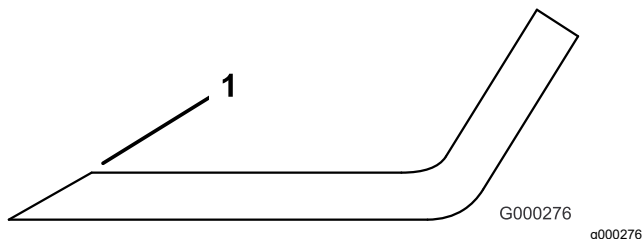

Figure 27
4. Examine the cutting edges of all of the blades and sharpen the cutting edges if they are dull or nicked (Figure 27).
Note: Sharpen only the top of the cutting edge and maintain the original cutting angle to ensure sharpness (Figure 27). The blade remains balanced if the same amount of metal is removed from both cutting edges.